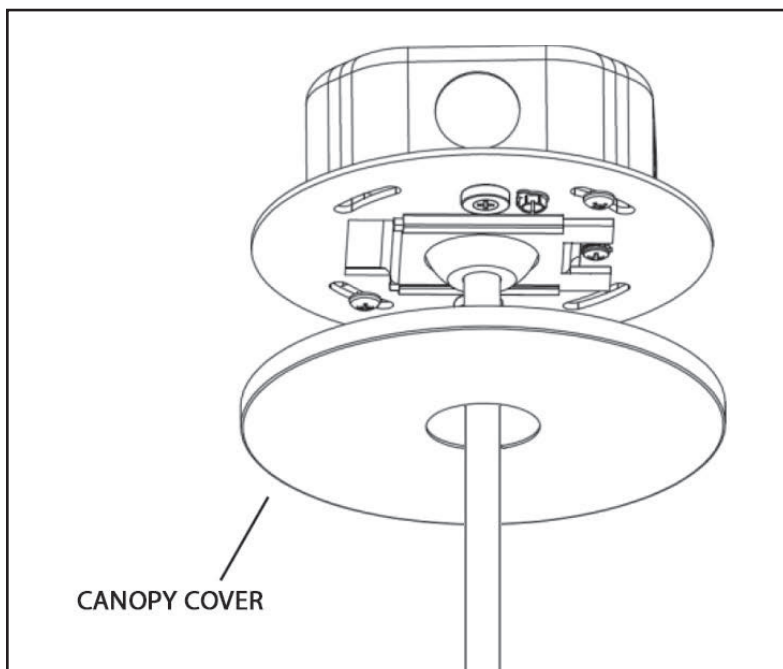

Figure 10
14. Take assembly from Step 2 and insert the Half Ball Mounting Plate through the Round Crossbar Plate at an angle. Push the remaining side up and slide into place. Use Locking Screw to secure. (Figure 10)